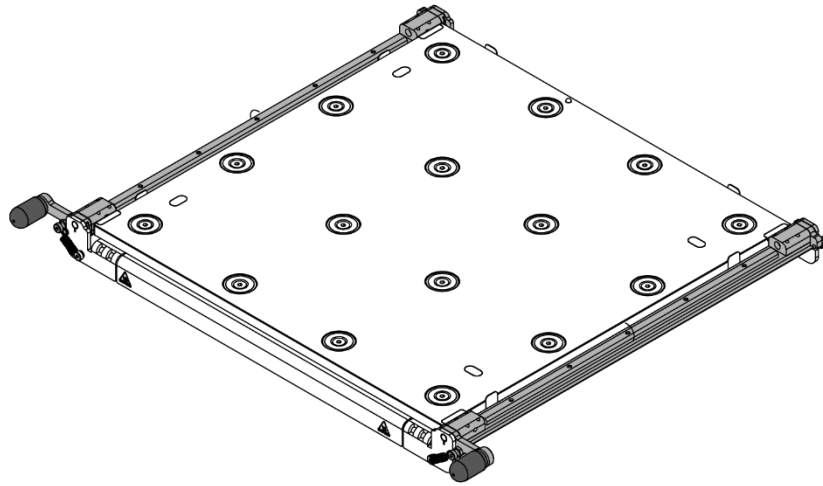

Fig. 71 Build plate installation – open clamps with handles
5. Open the two side locks (Fig. 71, grey) using the handles (Fig. 71, black).